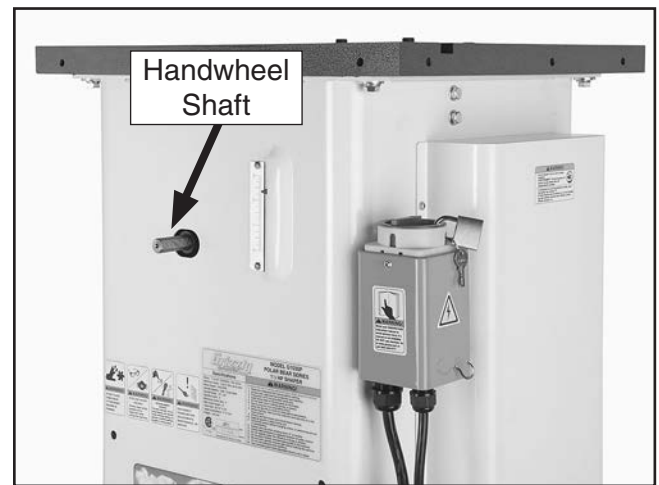

Figure 15. Location of handwheel shaft.
11. Slide the handwheel onto the handwheel shaft shown in **Figure 15**.